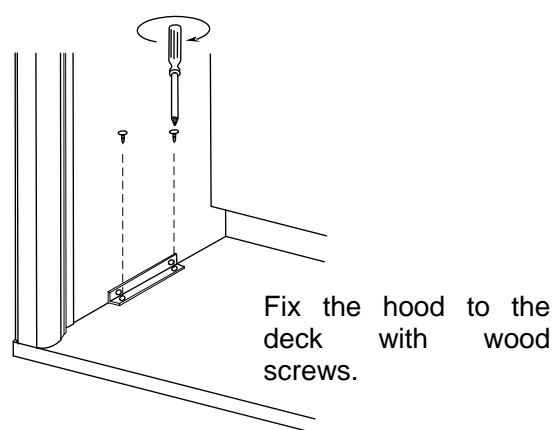

Fig. 2-4
- ⑤ Fix the hood and frame with attached fixing brackets and screws. (Fig.2-4)
- ⑥ When fixing is over, seal a joint between the lower end of interior of the main body and the frame with a silicon caulking agent. This is the end of desk-top type installation procedure.